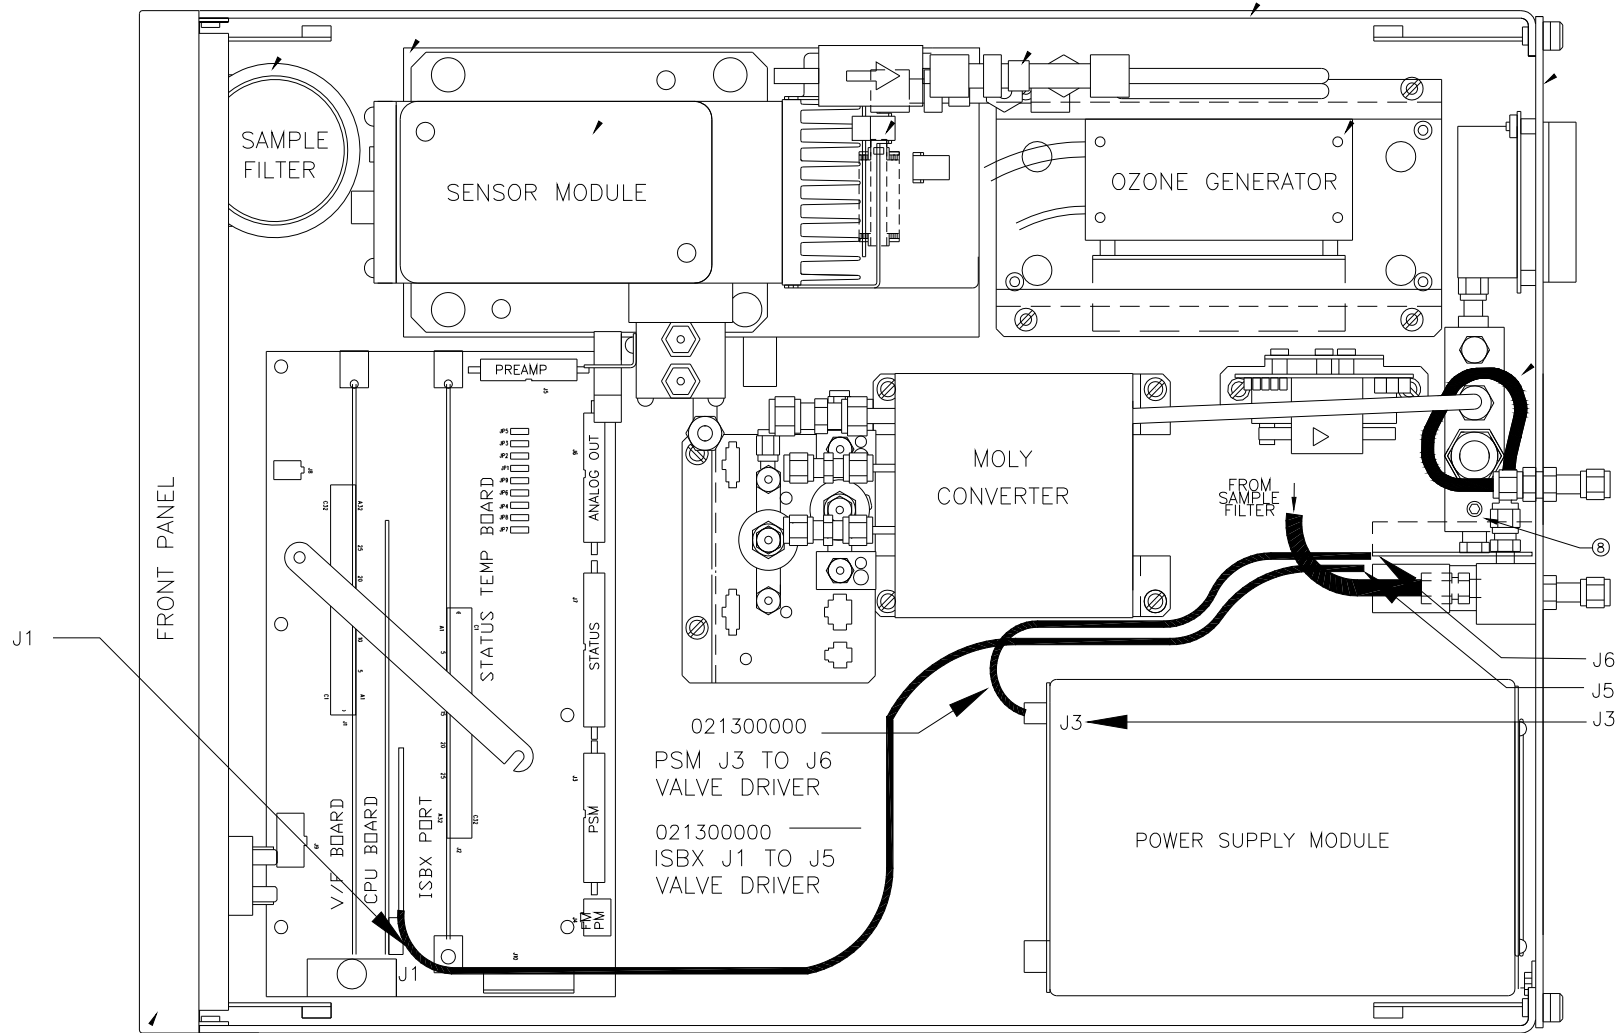

FIGURE 2
5. Take the 020370000 ISBX PORT board and install it on the CPU board in J19. The nylon stand off should go through the hole in the 020370000 board. Take the SN-8 (#6 nut) and tighten it on the stand off, securing the CPU board to the 020370000 board. Take care not to over tighten the nut or it will strip the stand off. (See Figure 2)
6. Take the 021300000 cable and plug the 4pin connector into J1 of the 02037 ISBX PORT board. Reinstall the CPU board into the backplane and the replace the screw/standoff holding the CPU to the V/F board. Reinstall the CPU V/F assembly back into the motherboard. Tighten the flat head captive screw and replace the black hold down bracket. Run the 021300000 cable back to the Valve driver manifold board and plug it into J5. (See Figure 2)
7. Take the 021290000 cable and plug it into J6 of the Valve Driver manifold board. Run the other end of the cable to J3 of the Main Power Supply. (See Figure 2)